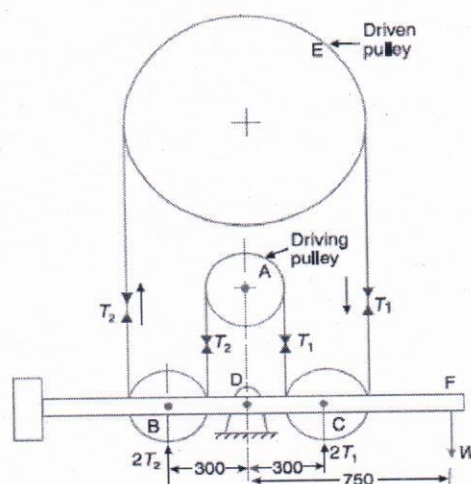

Fig. 19.35. All dimensions in mm.
8. The essential features of a transmission dynamometer are shown in Fig. 19.35. A is the driving pulley which runs at 600 r.p.m. B and C are jockey pulleys mounted on a horizontal beam pivoted at D, about which point the complete beam is balanced when at rest. E is the driven pulley and all portions of the belt between the pulleys are vertical. A, B and C are each 300 mm diameter and the thickness and weight of the belt are neglected. The length DF is 750 mm. Find : 1. the value of the weight  $W$  to maintain the beam in a horizontal position when 4.5 kW is being transmitted, and 2. the value of  $W$ , when the belt just begins to slip on pulley A. The coefficient of friction being 0.2 and maximum tension in the belt 1.5 kN.